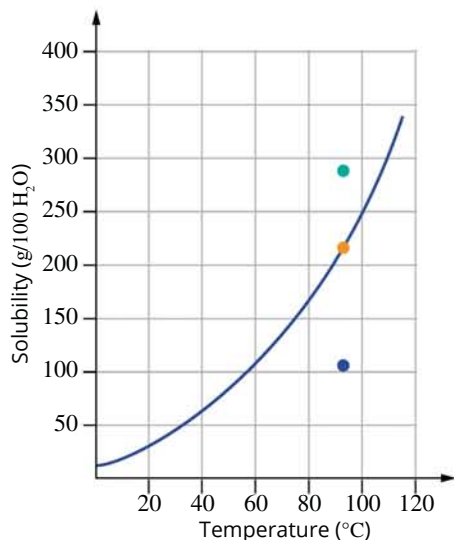

FIGURE 14.1.3 Solubility curve for potassium nitrate.
- 3 Look at Figure 14.1.3 and determine which coloured points correspond to saturated, unsaturated or supersaturated solutions of potassium nitrate.